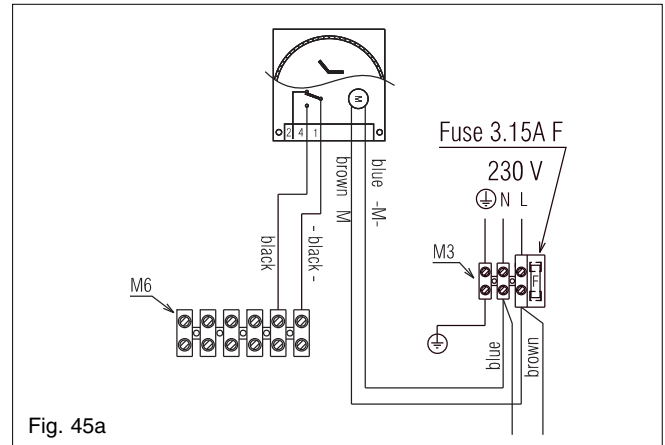

Fig. 45a
- single-channel, voltage-free time clocks (fig. 45a)